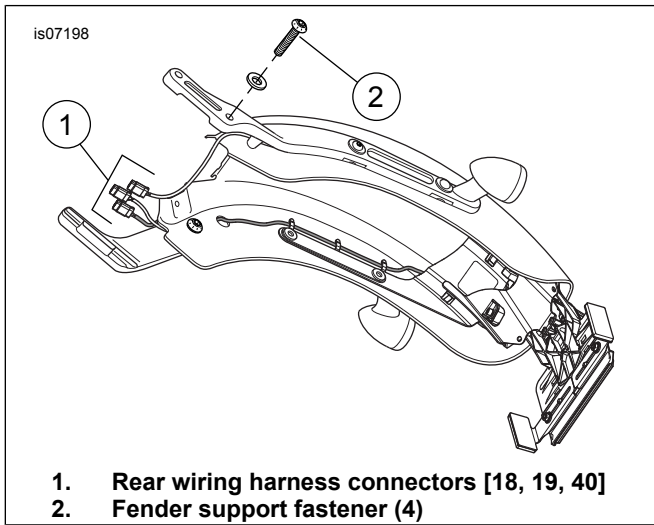

Figure 1. Rear Fender
- See Figure 1. Carefully place the fender into position.
- Install fender support fasteners (2). Tighten fasteners to an initial torque of 40.7–47.5 N·m (30–35 ft-lbs). Loosen fasteners and final-tighten to 51.5–56.9 N·m (38–42 ft-lbs).
- Connect all three rear wiring harness connectors [18, 19, 40] (1).